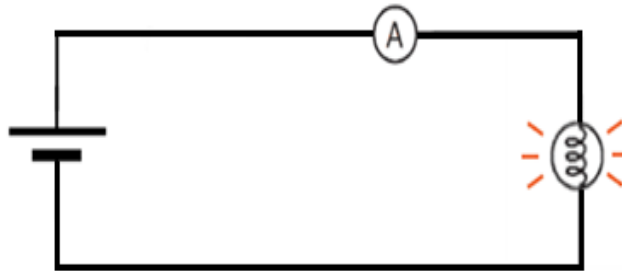

Figure1. The connection of the circuit's elements
2. Then, the circuit's elements which are : DC power supply, ammeter and the lamp were connected in series as shown in figure1.
3. After that, the DC power supply was turned on, set to the nominal voltage of the lamp (12V) and the ammeter was set to measure the direct current (DC).